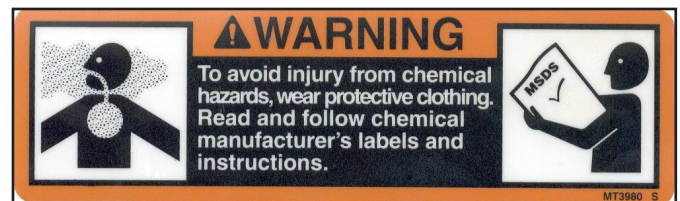

Figure 1: Chemical Warning Decal (DEMT3980)
- Be aware of the chemical warning decal on the unit tank (Figure 1).